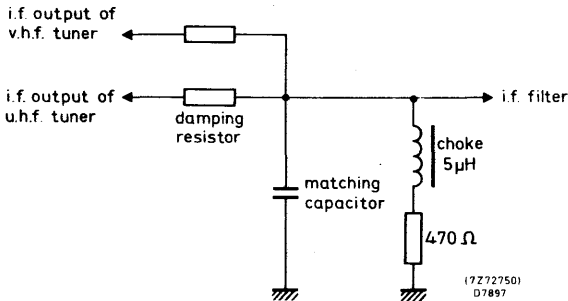

Fig. 8
The tuner needs a d.c. path from the i.f. output terminal (10) to earth, preferably via a choke of approx.  $5 \mu\text{H}$  outside the tuner (Fig. 8).
In the case where the tuner is used in combination with a v.h.f. tuner, this choke can be common for both tuners; a resistor in series with the choke can make ineffective the i.f. output circuit of the switched off tuner. For damping the i.f. output circuit and matching the i.f. output impedance of the tuner to the i.f. amplifier, a series resistor and a parallel capacitor as shown in Fig. 8 should be used.